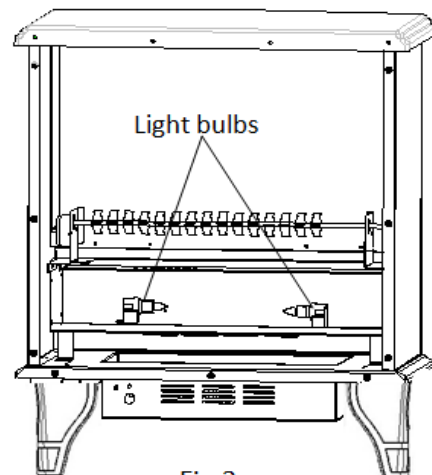

Fig.2
- Remove light bulbs and replace with clear 120V / 40W, G9 Socket base light bulbs (see Fig.2).